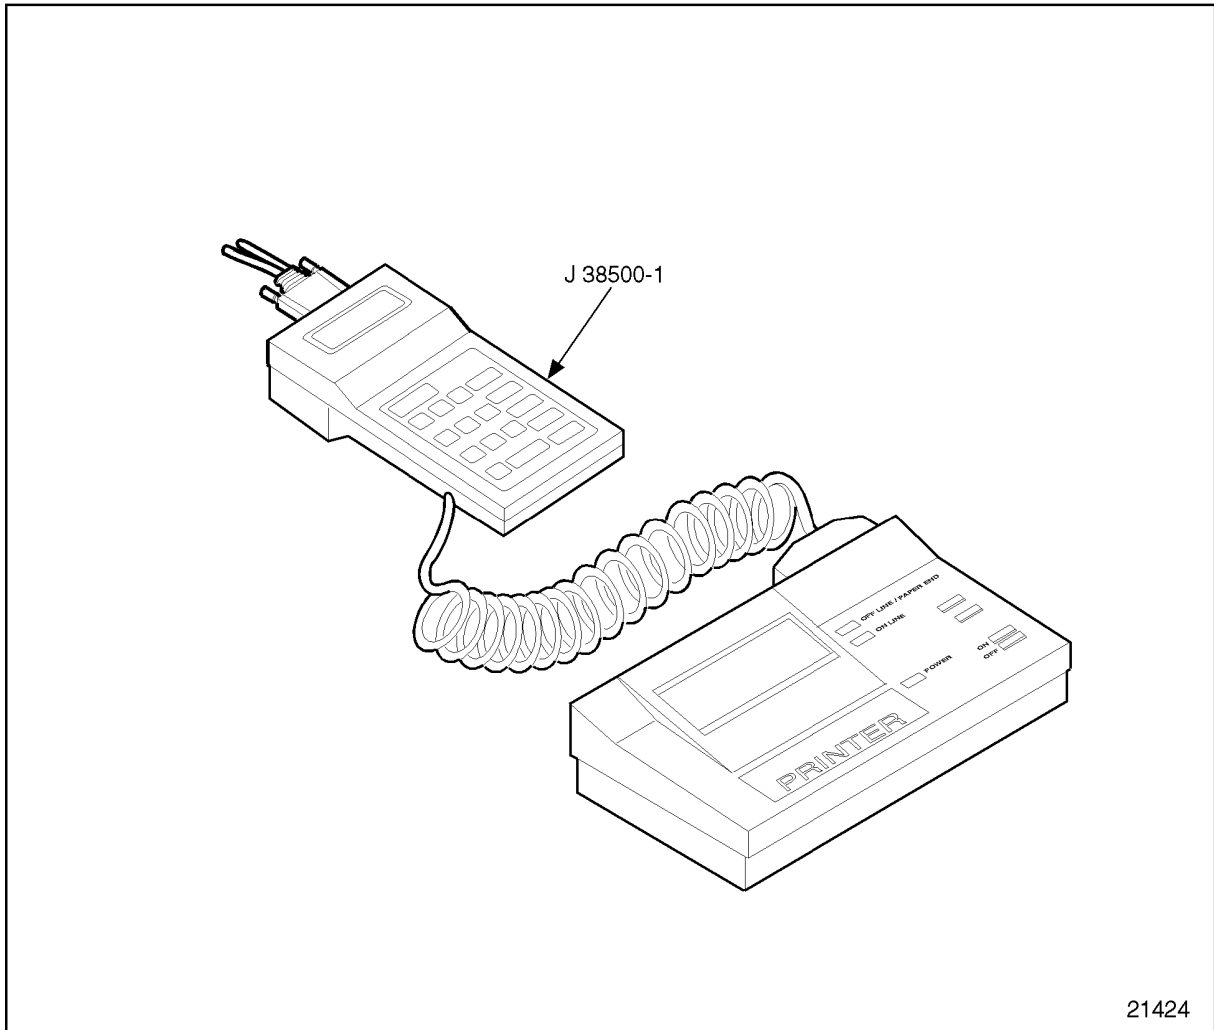

Figure 2-53 The DDR and Printer
1. A DDR can be used to read the codes. See Figure 2-53.
2. A personal computer (PC) connected to the ECM through a translator device which converts J 1708 to RS232 protocol can be used.
The hand-held DDR is used on engines equipped with DDEC III to display engine description, diagnostic data, fault codes, and to program the ECM calibration. A printout of the information displayed on the DDR, can be obtained by attaching a printer. The diagnostic data reader kit, J 38500-1DD, includes a reader, cable, carrying case, DDEC cartridge, manual, and a 6-pin adaptor. See Figure 2-53.